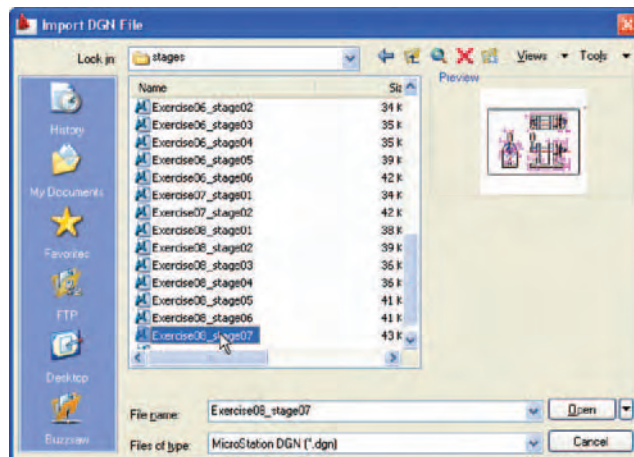

Fig. 10.22 The DGN import File dialog
2. In AutoCAD 2009 at the command line *enter* **dgnimport**. The dialog (Fig. 10.22) appears on screen from which the required drawing file name can be selected. When the **Open** button of the dialog is *clicked* a